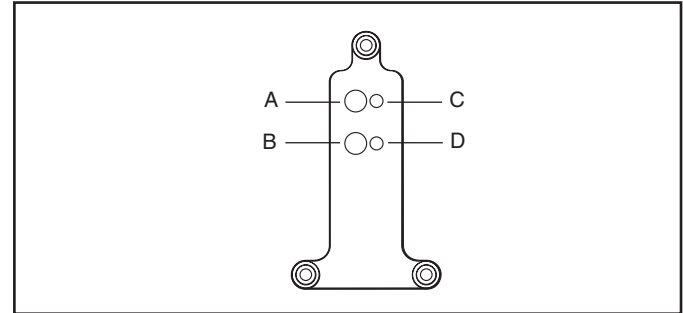

Figure 47 – Alignment aid viewed towards chamber
5. Referring to Figure 47, use the reference beam pitch and yaw controls to bring the reflected reference beam so that it passes through hole A in the alignment aid.